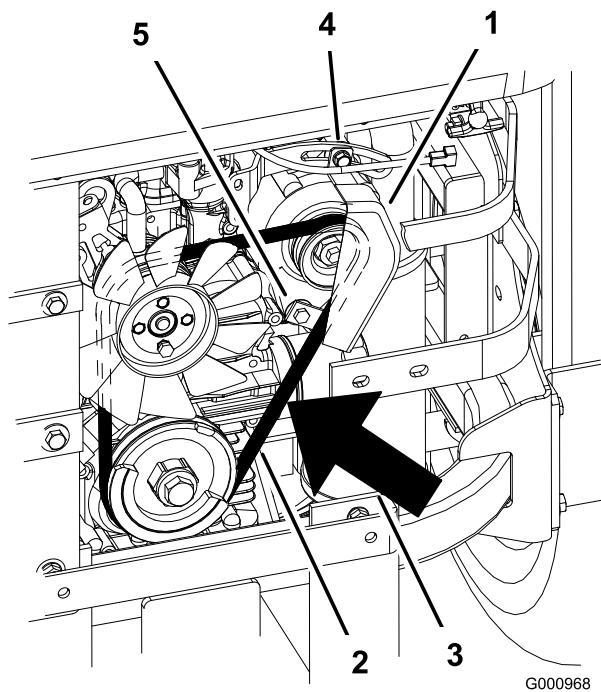

Figure 66
7. Loosen the bottom bolt and remove the upper bolt holding the alternator and cover (Figure 66).
9. Install a new belt around the pulleys and the alternator (Figure 66).
14. Tighten the bottom bolt and install the upper bolt holding the alternator and cover (Figure 66).
2. Adjust the alternator to the outside until there is 1/4 to 11/32 inch (7 to 9 mm) deflection in the belt between the engine and the alternator pulleys with 22.1 lbs of force (10 kgf) (Figure 66).
5. If the deflection is correct, tighten the bottom and upper bolt (Figure 66).